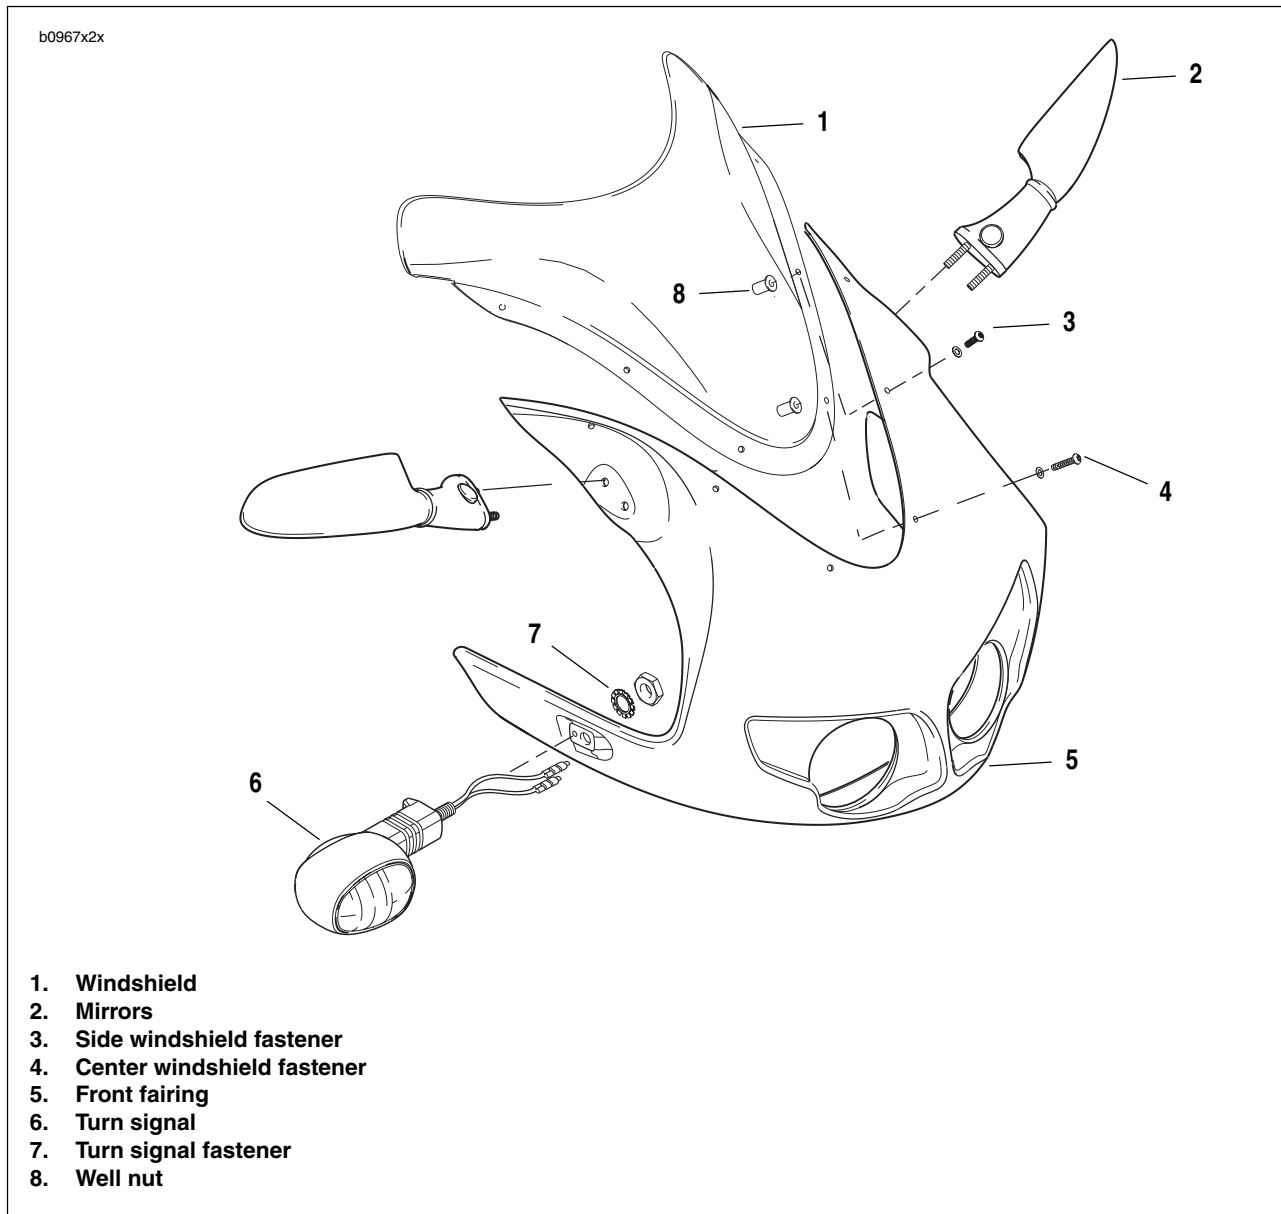

Figure 2-119. Front Fairing and Windscreen
1. See Figure 2-119. Remove two center (4) and four side windscreen fasteners (3) to remove windshield (1).
2. Remove mirrors (2).
3. Remove turn signals (6, 7). See 7.14 TURN SIGNALS and remove front fairing (5).
1. See Figure 2-119. Position fairing (5) onto fairing support bracket and install turn signals (6, 7). See 7.14 TURN SIGNALS.
2. Install mirrors (2) with fasteners and tighten to 72-96 **in-lbs** (8-11 Nm).
3. Install two center (4) and four side windscreen fasteners (3).